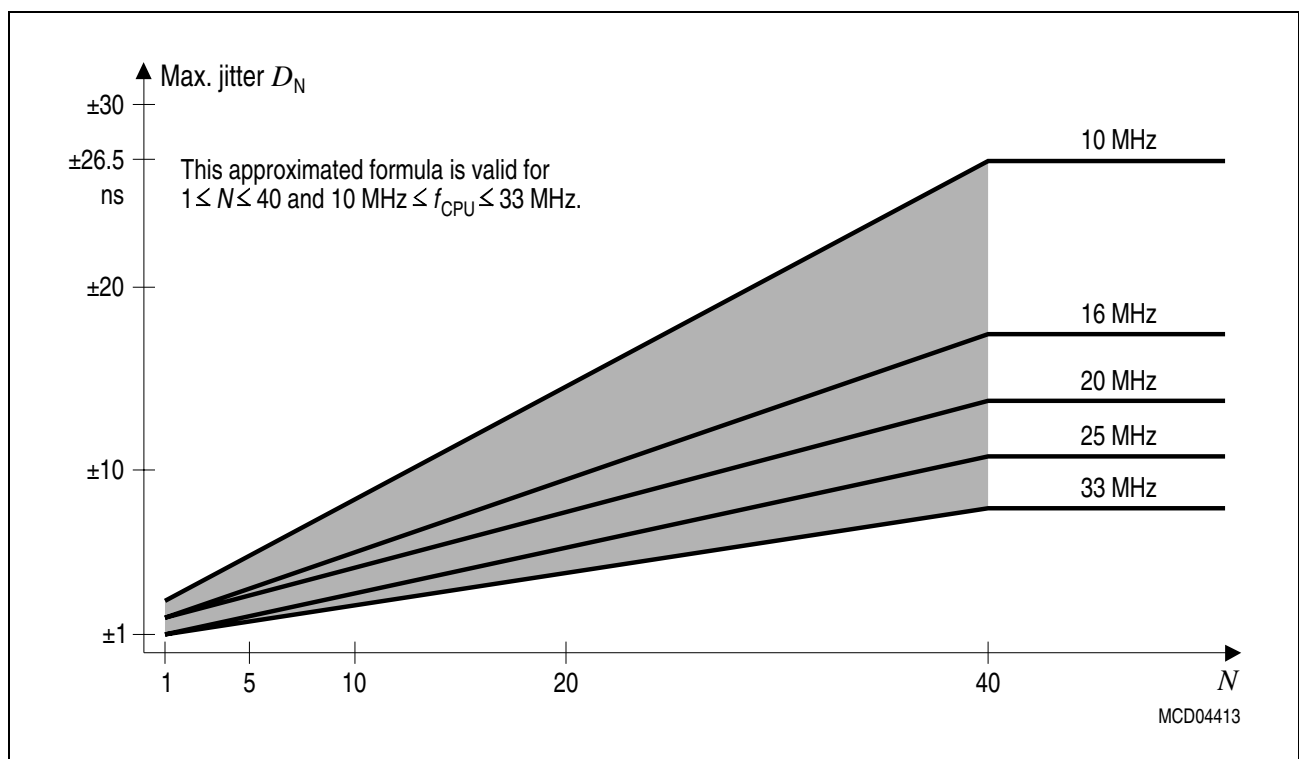

Figure 10 **Approximated Maximum Accumulated PLL Jitter**
for one single TCL (see formula and **Figure 10**).
*Note: For all periods longer than 40 TCL the $N = 40$ value can be used (see **Figure 10**).*